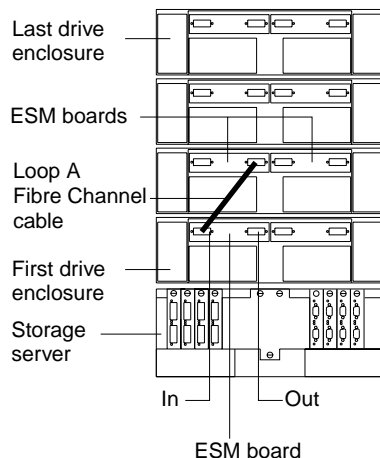

Figure 27. Connecting two drive enclosures into drive loop A
1. Connect the first two drive enclosures to drive loop A, as shown in Figure 27.